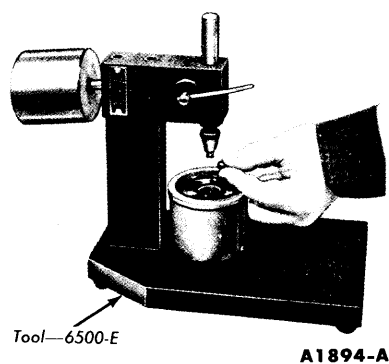

FIG. 3—Placing Steel Ball in Valve Lifter Plunger
2. Place a $\frac{5}{16}$ -inch steel ball in the plunger cup (Fig. 3).